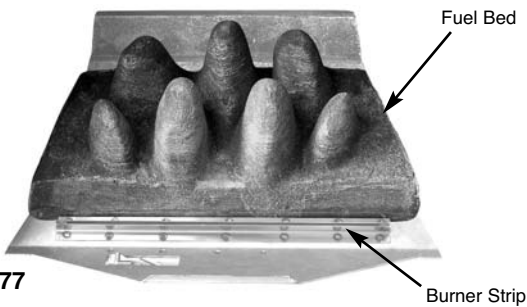

Fig. 77
2. Place the main fuel bed on to the middle section of the metal burner tray. It is important that the front edge of the fuel bed is located behind the burner strip (Fig. 77).